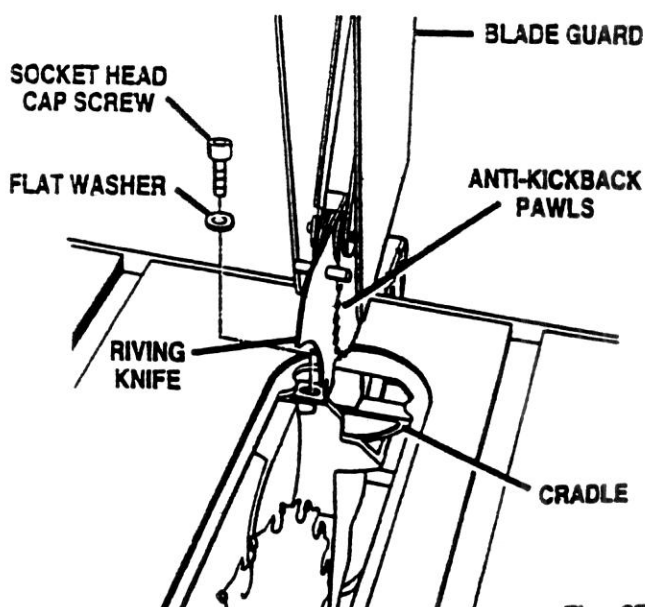

Fig. 27
- Insert the third socket head screw and a flat washer into the screw hole in the saw table under the throat plate. Securely tighten with a 5 mm hex key. See Figure 27.